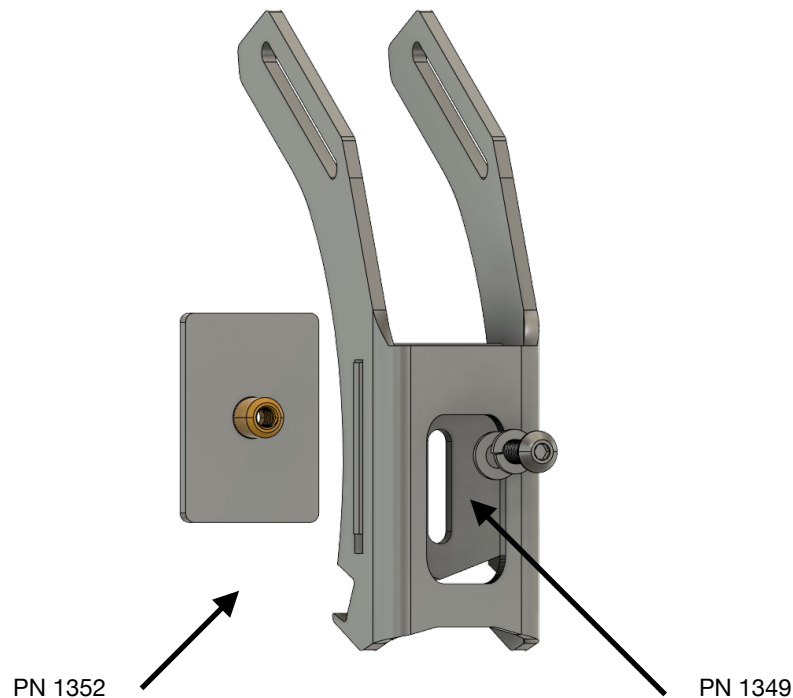

Figure 4
Begin by hand threading the M8 hardware from the bag labeled **GUTTER MOUNTS TO DRIP RAILS**. Leave these loose so that they slide up and down with no effort. Observe hardware orientation in **Figure 4**. Repeat the process with all eight (8) gutter mount assemblies.